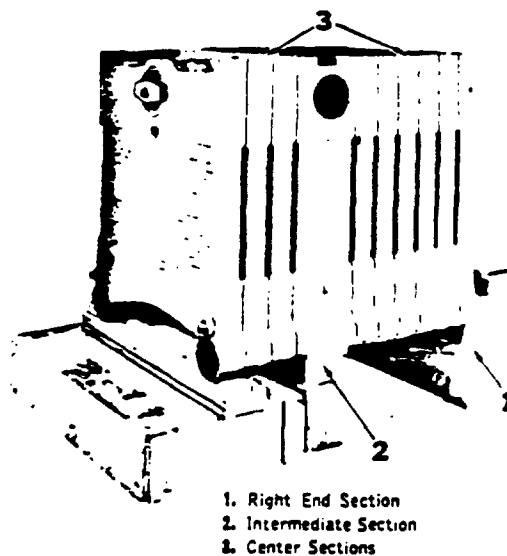

FIG. 4—Assembling Larger Boiler
6. For 13 to 41 Section Boilers—Continue to assemble sections until ready for intermediate (thick) section. Bolt two corner support brackets to each side of intermediate base and lengthen tie rods with couplings. Repeat this operation as each intermediate section is assembled. See Fig. 4.